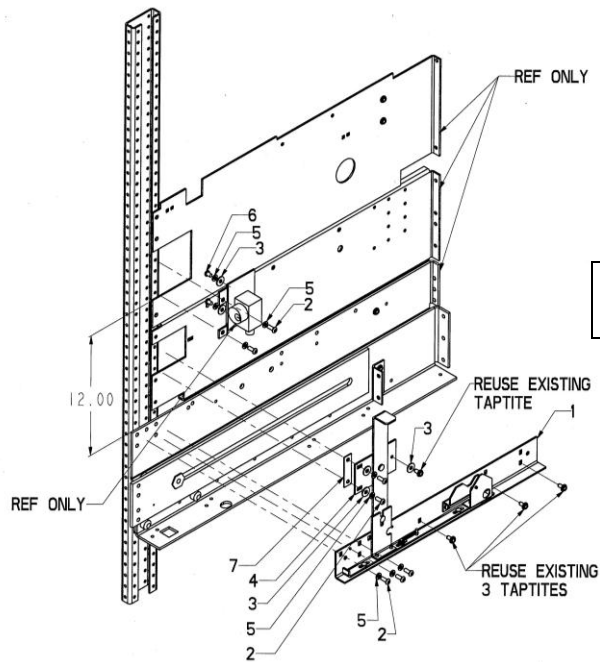

Fig. 2
- lock washers, and flat washers as shown in Fig. 2. Torque screws to 7-9 Ft-Lbs.
3. Attach key lock and plate assembly to the left side of the substructure using 2 tamper-resistant screws and lock washers as shown in Fig. 2. Torque screws to 7-9 Ft-Lbs.
4. Mount slide assembly item #1 to left side of substructure reusing 3 taptites and installing tamper resistant screws and lock washers as shown in Fig. 2. (Leave hardware loose.)
6. Insert pivot bar rivet into slide assembly slot and mount to left side of substructure using shim, 2 tamper resistant screws, lock washers, flat washers, and reusing 1 taptite with flat washer as shown in Fig. 2. (Leave hardware loose.)